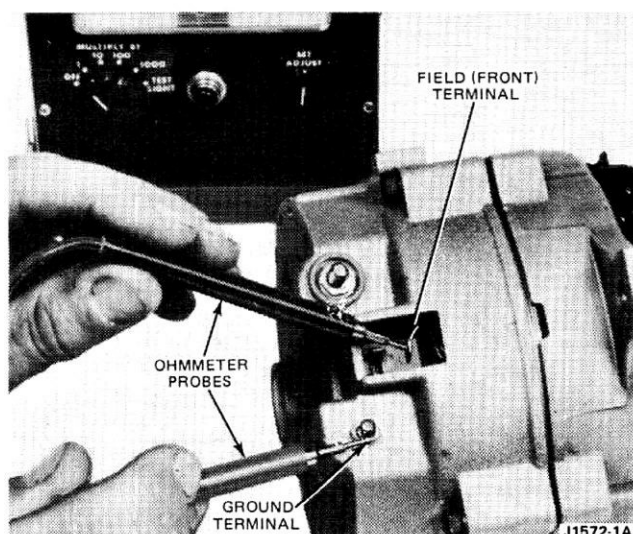

FIG. 6 Field Open or Short Circuit Test
1. Contact the alternator field terminal with one probe and the ground terminal with the other probe (Fig. 6). Then, spin the alternator pulley. The ohmmeter reading should be between 2.4 and 25.0 ohms, and should fluctuate while the pulley is turning.